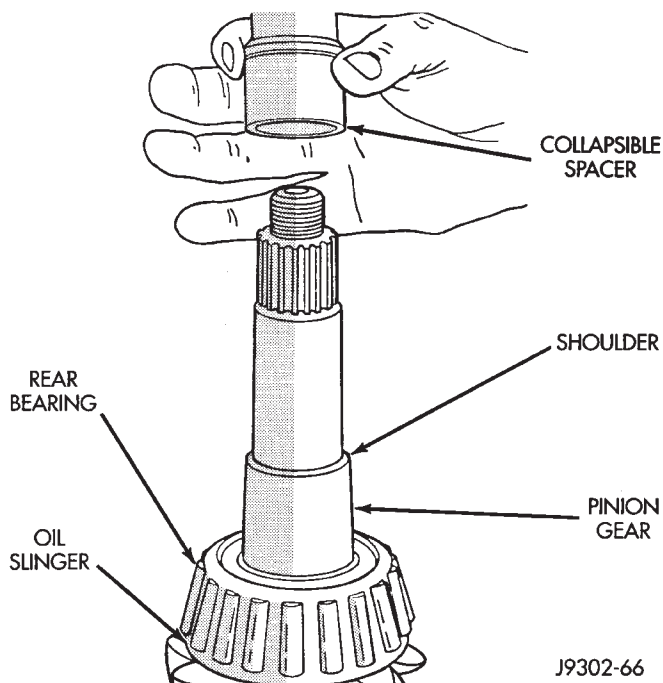

Fig. 50 Collapsible Preload Spacer
(9) Install a new collapsible preload spacer on pinion shaft and install pinion gear in housing (Fig. 50).
(10) Install pinion gear in housing.